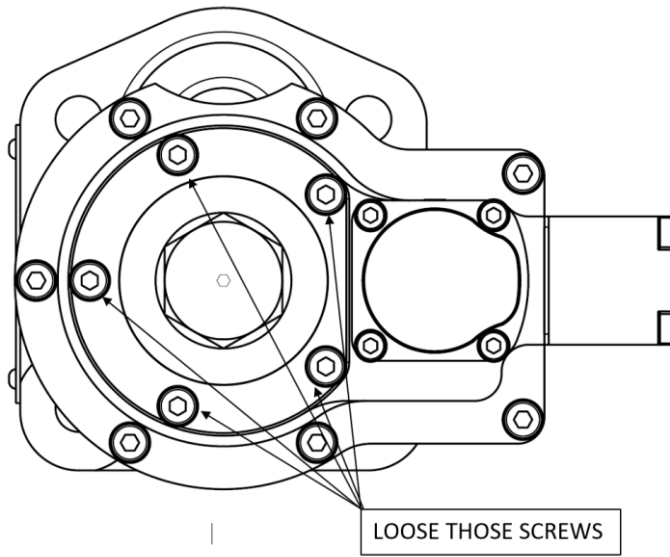

Figure 503
5.7.2 ADJUSTING MAXIMUM PROPELLER RPM (SEE FIG. 503, 504)